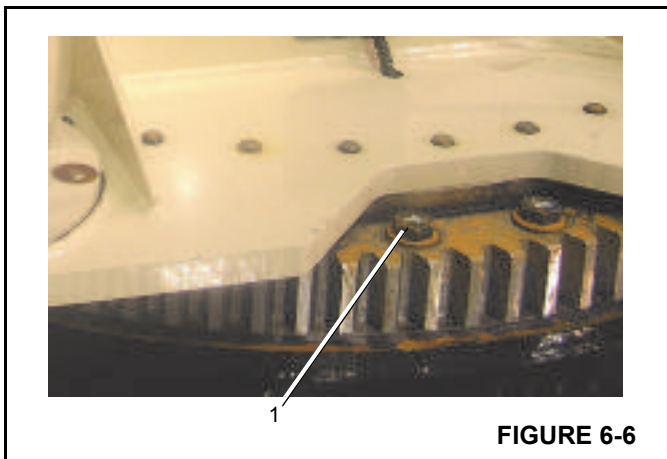

FIGURE 6-6
The outer race bolts (1) are located on top of the bearing (Figure 6-6).